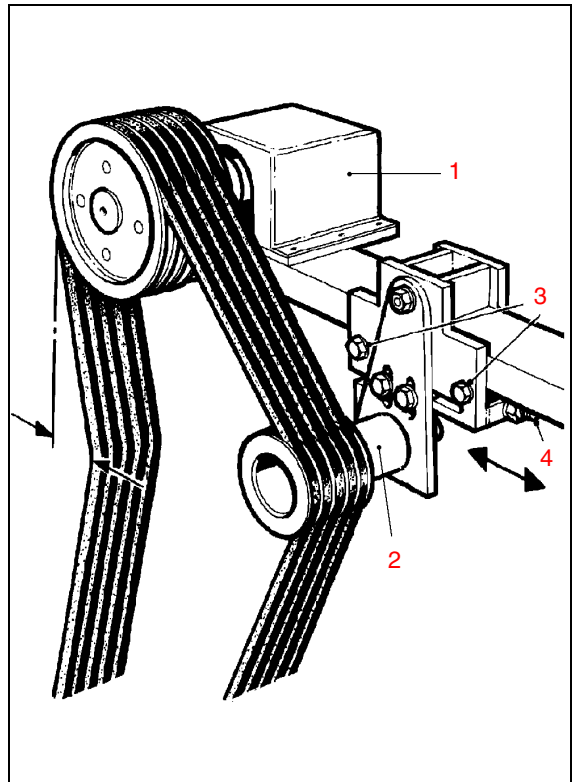

Fig. 33
Check the tension and wear of the fan belts. Using moderate thumb pressure midway between the crankshaft and fan pulley (1), a total deflection of 12.5 mm (1/2") is satisfactory (see **Fig. 33**). If one or more fan belts are faulty, **a complete set must always be fitted**, and the fan pulley to crankshaft pulley alignment checked. If adjustment is found necessary slacken the locking bolts (3) and adjust nut (4) either way retighten locking bolts (3) and adjusting nut (4).